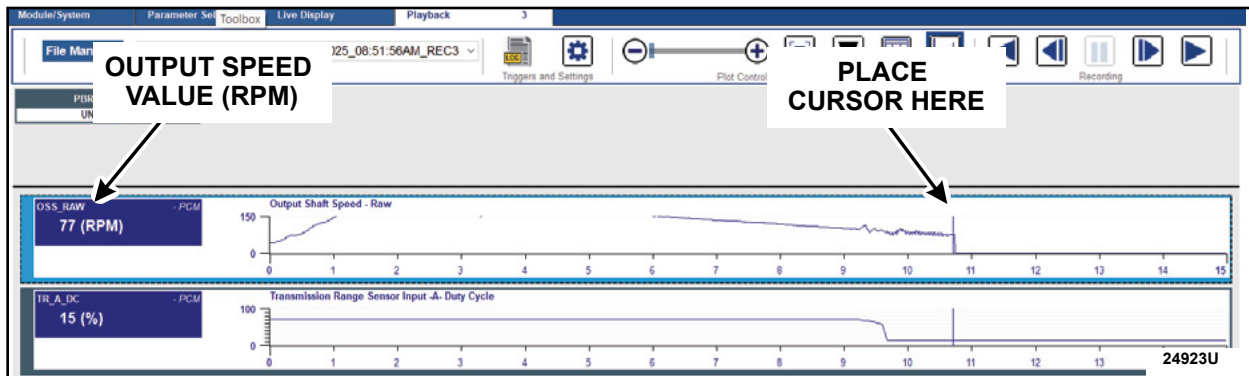

FIGURE 8
20. Place the cursor over the last non-zero value of the output speed chart and left mouse click on it. The RPM value should now be displayed to the left of the graph. See Figure 8.